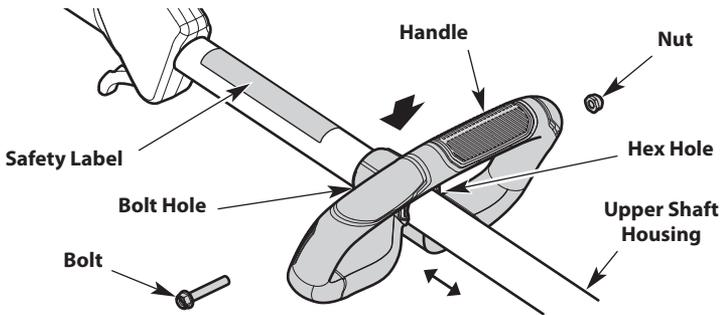

Fig. 9
1. Push the handle down onto the upper shaft housing (Fig. 9). Make sure the hex hole faces to the left (Fig. 9).
2. Insert the nut into the hex hole (Fig. 9). Hold the nut in place with a finger.
3. Insert the bolt into the bolt hole and push it through (Fig. 9). Tighten the bolt with a flat-head screwdriver, but do not tighten the bolt completely.
4. Hold the unit in the operating position (Fig. 14). Move the handle up or down the upper shaft housing to a comfortable location (Fig. 9). Make sure the handle is positioned beyond the end of the safety label (Fig. 9).
1. Loosen the bolt with a flat-head screwdriver (Fig. 9).
2. Hold the unit in the operating position (Fig. 14). Move the handle up or down the upper shaft housing to a comfortable location (Fig. 9). Make sure the handle is positioned beyond the end of the safety label (Fig. 9).